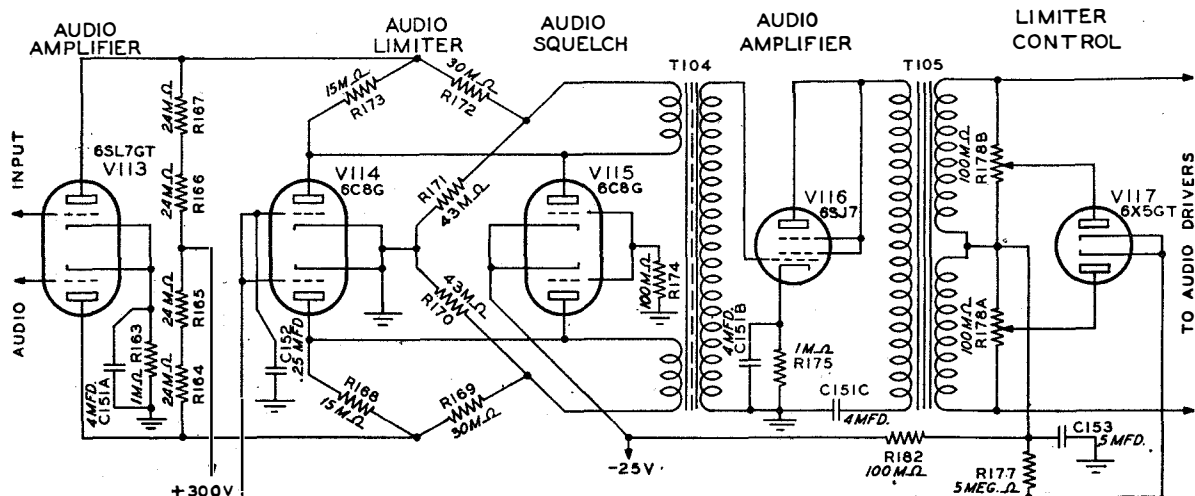

Fig. 10 Volume Limiter Circuit (Dwg. No. 500 0089 00A)
**2.9.3. Volume Limiter and Audio Amplifier.** Refer to Fig. 10. The volume limiter that is incorporated in this equipment has been designed to control the audio signal level and to give uniform speech amplifier output with a relatively wide variation of audio input. When the limiter control is properly adjusted, increasing the input to the preamplifier as much as 25 db will cause a rise in the speech amplifier output which will not exceed 3 db. The limiter circuit utilizes the principle of the familiar Wheatstone resistance bridge.